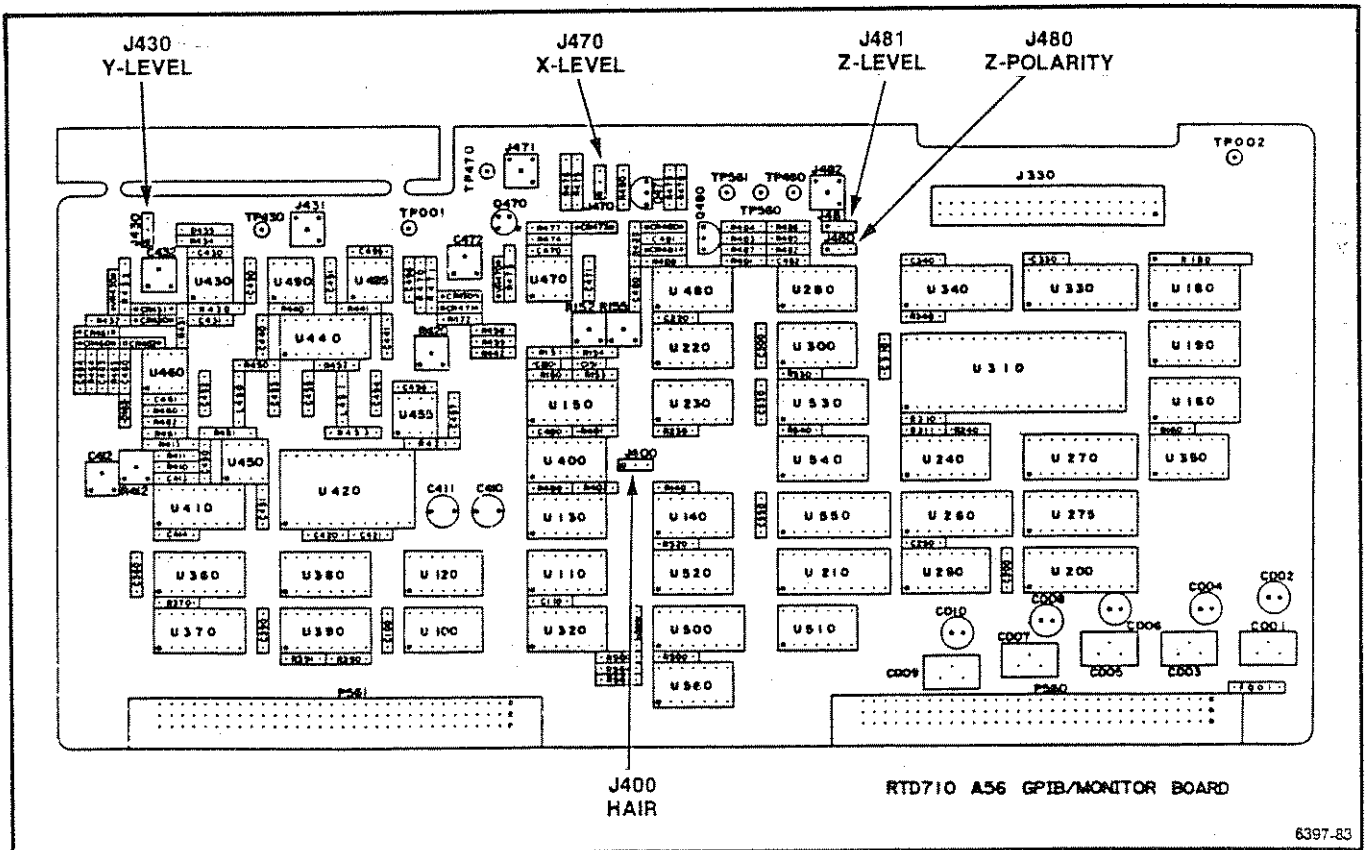

Fig. D-6. CRT monitor output jumper locations.
4. Unscrew the three (3) Circuit Board Retainer attaching screws, but do not unscrew them completely out of the retainer. Then lift the retainer up and out of the chassis.
9. Set the CRT monitor jumpers as desired using Table D-1 and Fig. D-6.